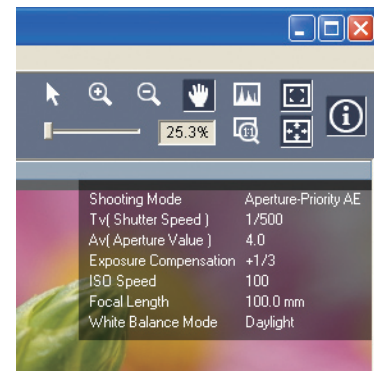

Fig. 013 Shooting information display
- Shooting information (focal length, shutter speed, aperture value, shooting mode, ISO speed) displayed on images (Fig. 013).